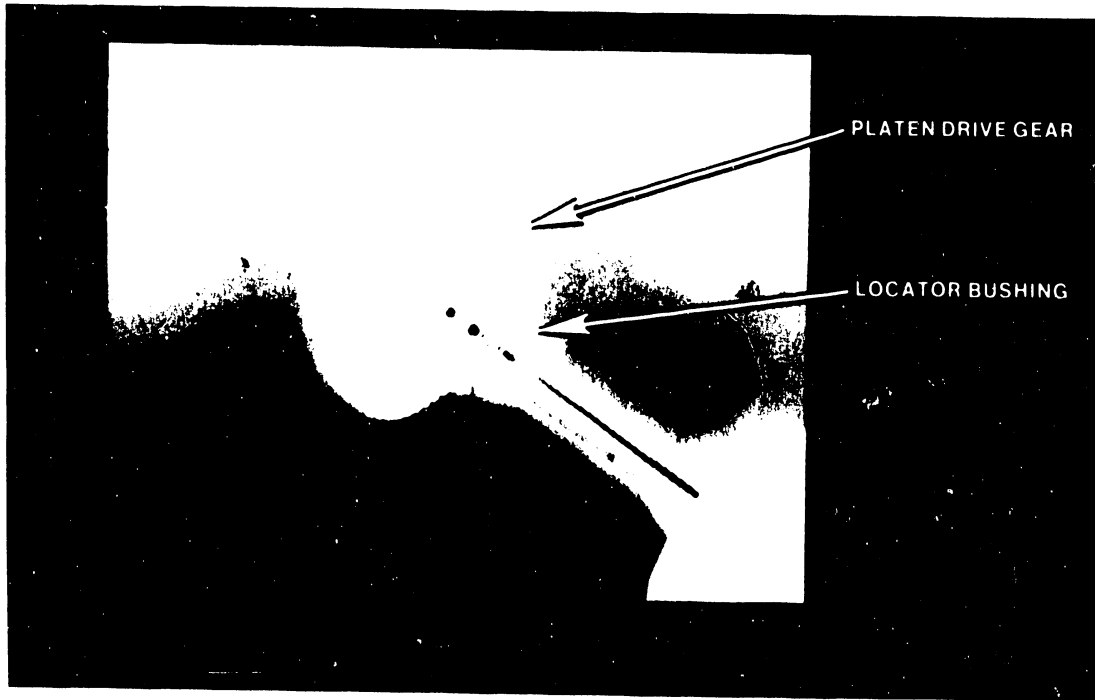

FIGURE 4 PLATEN ASSEMBLY MODIFICATION
4. Modify platen assembly as follows (see Figure 4):